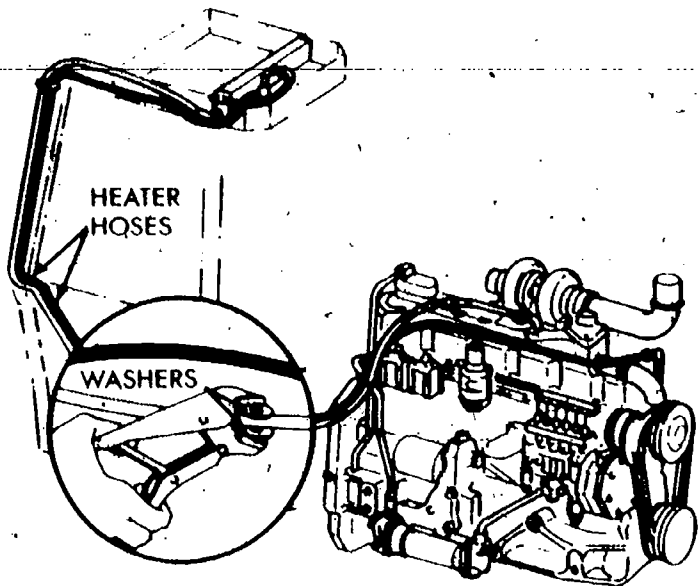

Fig. 61 — Crimp Heater Hose Shut
**4.** Use two flat washers to crimp a heater hose shut with locking pliers (Fig. 61).